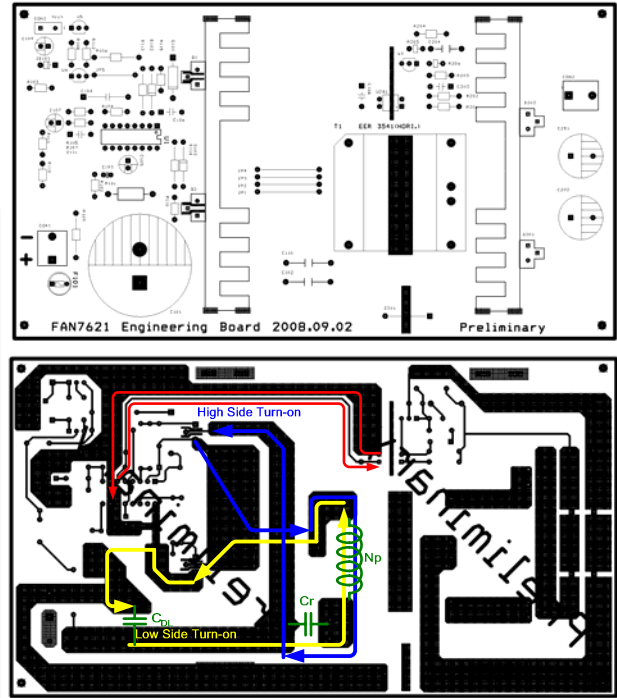

Figure 28. Example for Duty Balancing
**6. PCB Layout Guideline:** Duty imbalance problems may occur due to the radiated noise from main transformer, the inequality of the secondary-side leakage inductances of main transformer, and so on. Among them, it is one of the dominant reasons that the control components in the vicinity of  $R_T$  pin are enclosed by the primary current flow pattern on PCB layout. The direction of the magnetic field on the components caused by the primary current flow is changed when the high-and-low side MOSFET turns on by turns. The magnetic fields with opposite direction from each other induce a current through, into, or out of the  $R_T$  pin, which makes the turn-on duration of each MOSFET different. It is strongly recommended to separate the control components in the vicinity of  $R_T$  pin from the primary current flow pattern on PCB layout. Figure 28 shows an example for the duty-balanced case. The yellow and blue lines show the primary current flows when the lower-side and higher-side MOSFETs turns on, respectively. The primary current does not enclose any component of controller.
In addition, it is helpful to reduce the duty imbalance to make the loop configured between CON pin and optocoupler as small as possible, as shown in the red line in Figure 28.